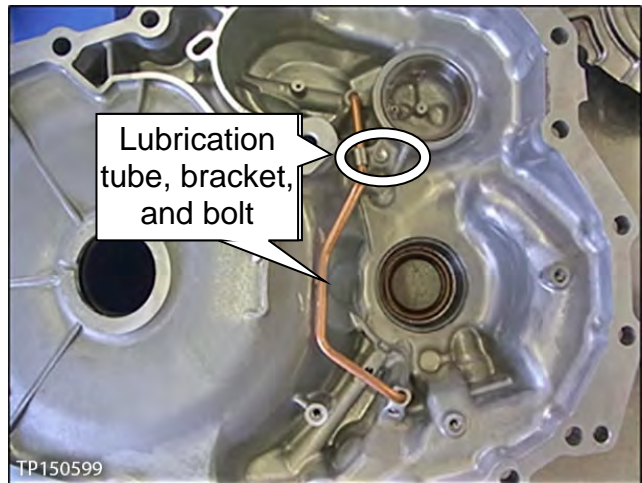

Figure 2H
b. Remove the bolt and then remove the lubrication tube and its bracket (Figure 2H).